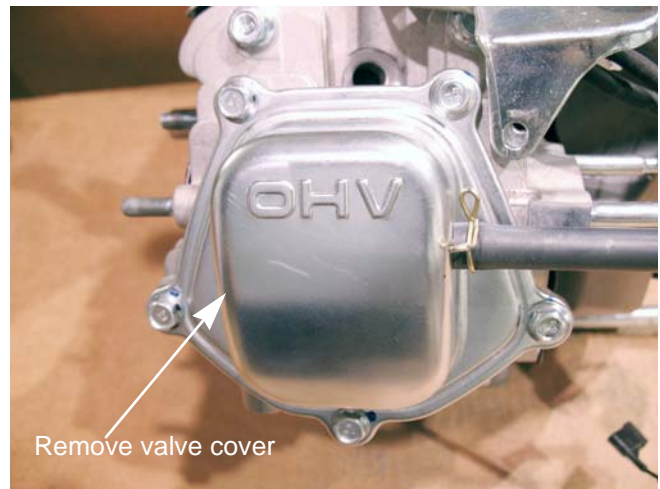

Figure 9.4
- Remove the five screws securing the valve cover using a 10mm wrench. See Figure 9.4.